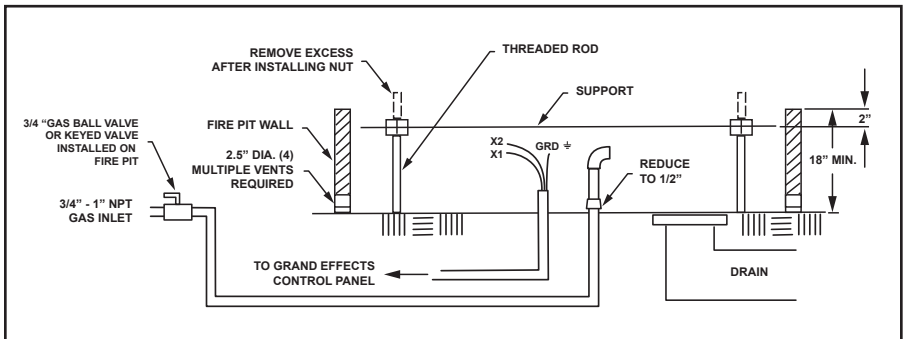
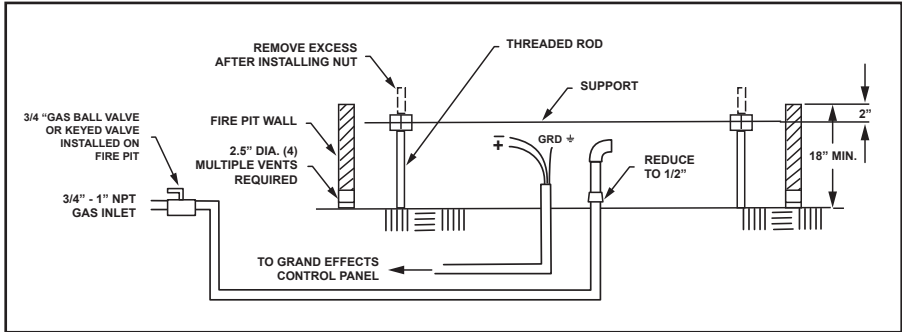

Figure 5. Natural Gas - Residential Installation
Figure 6. Propane - Residential Installation
3. The piping must be reduced to ½" NPT or larger at the burner, as shown in Figure 5.
IMPORTANT: Do not come straight up with the gas hose. As shown in Figure 5, a 90° gas pipe elbow must be installed on the gas line for proper installation of the gas hose. The product warranty is voided if it is not installed with an elbow as shown in Figure 5.
7. Adjust the height of the support plate as shown in Figure 5 and Figure 6. Cut off the excessive length of bolts.
8. Venting the air gap at the bottom of the fire pit walls is required for cooling the burner assembly as shown in Figure 5 and Figure 6.
NOTE: Providing good drainage is critical as shown in Figure 5.
IMPORTANT: There is an 18" minimum depth requirement of the fire pit as shown in Figure 5 and Figure 6.